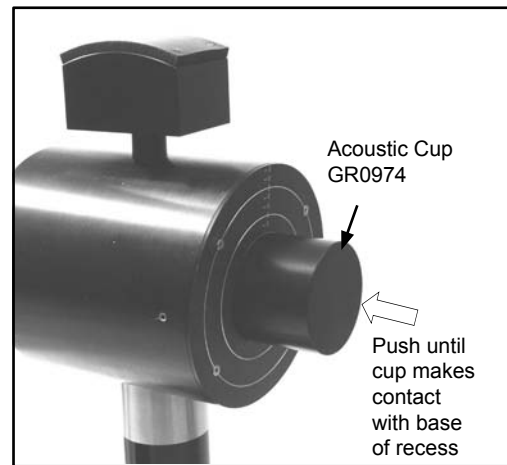

Fig. 4.13
3. Push the Cup GR0974 with its hollow facing the microphone into the recess surrounding the microphone until it makes contact with the base of the recess (Fig. 4.13).